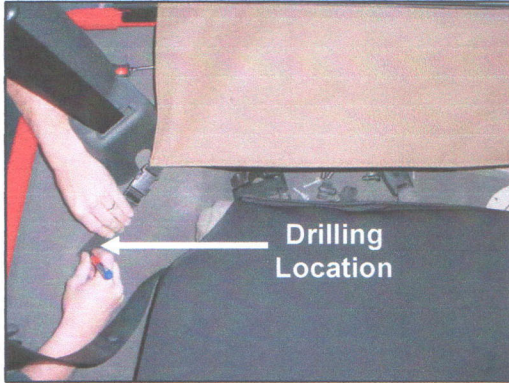

Figure 26
15. Fold seat forward and position the Rear Seat Tonneau Cover. Use the hole on the strap as a guide to mark the hole on the fender (Figure 26)